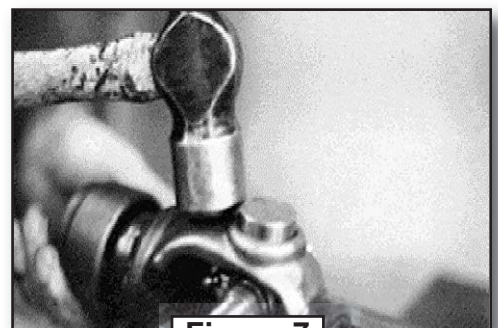

Figure 7
10. Set the end yoke on the vise so the trunnions of the cross are supported by the jaws of the vise. Hit the end yoke to force the bearing cup out of the end yoke. The bearing cup will only be forced part way out of the end yoke. **Note:** When hitting the end yoke **NEVER** hit the area around the hole for the bearing cup. Distortion of the hole will make removal of the bearing cup difficult (see Figure 7).